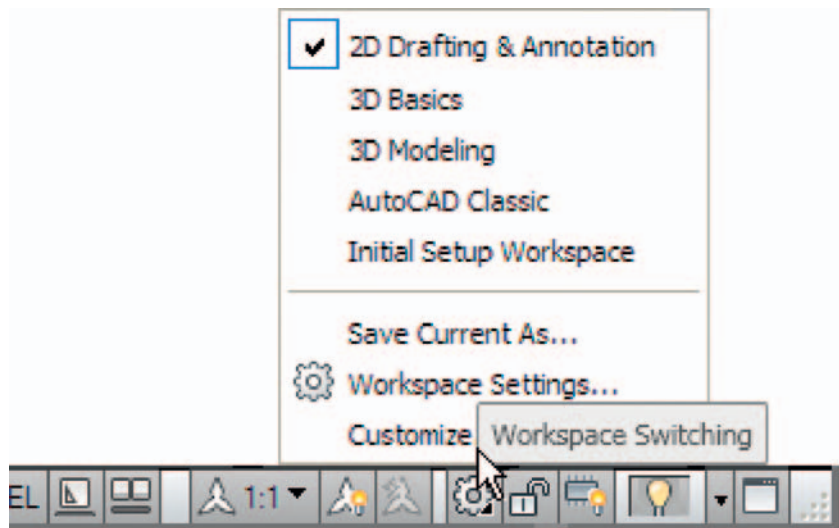

Fig. 1.5 The Workspace Switching popup menu
**Workspace Switching** menu: Appears with a *click* on the **Workspace Switching** button in the status bar (Fig. 1.5).